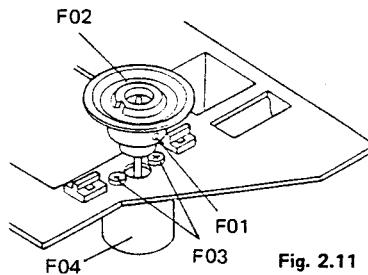

Fig. 2.11
- (1) Refer to Fig. 2.11.
- (2) Remove Disc Tray Ass'y refered to in item 2.6.
- (3) Remove F01, then pull up F02 (Turntable B Ass'y)
- (4) Remove F03, then F04 (Disc Motor).